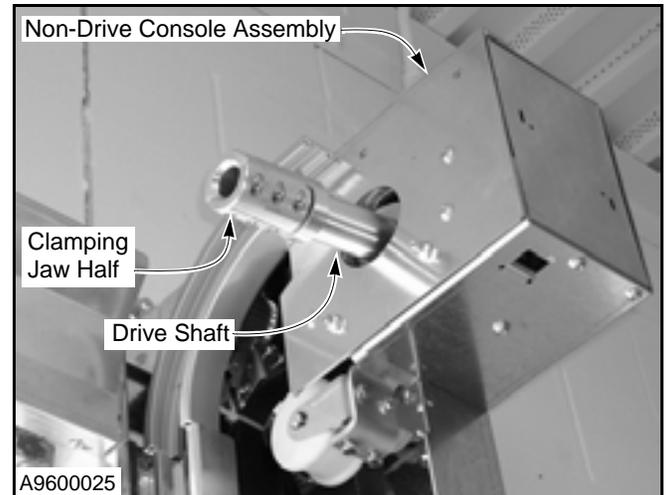

Figure 29
- Remove the hardware and the clamping jaw half from the drive shaft. (See Figure 29.)